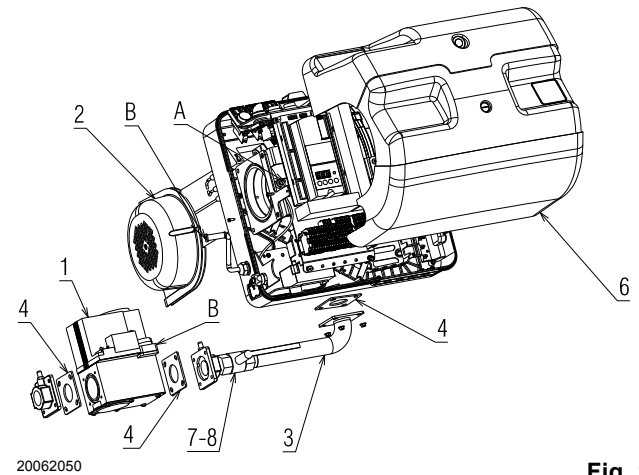
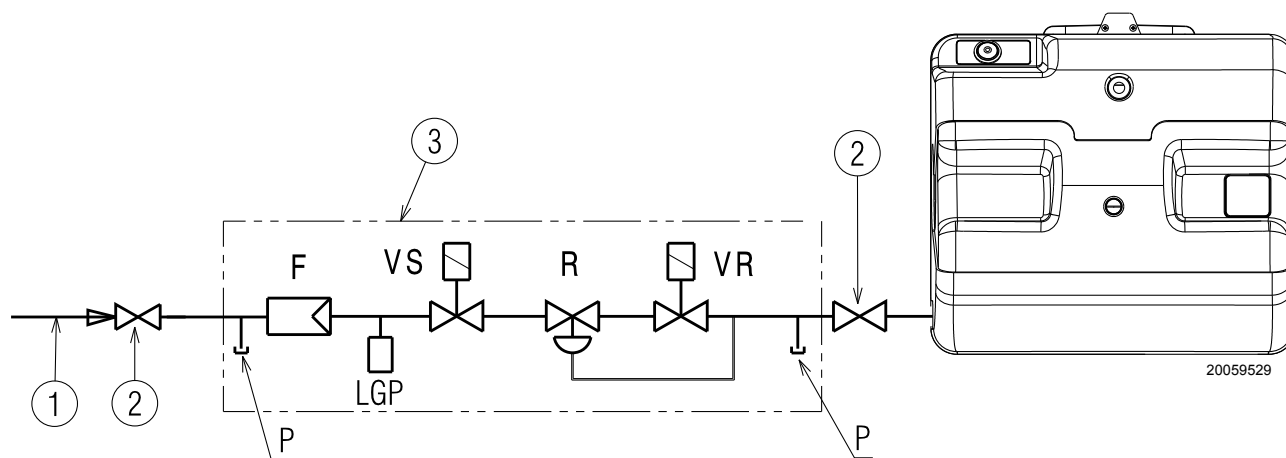

Fig. 17
Fig. 19
- Fix the train assembly 1)(Fig. 17). Interpose the gas pipe 3) nuts and the groover washer 4), the manual valve 7) and nipple 8).
- Insert the cover 6) (Fig. 17).
This has been type-approved in accordance with regulation NFPA 54/ANSI Z223.1 National Fuel Gas Code, NFPA 58 Liquefied Petroleum Gas Code, and International Fuel Gas Code, CAN/CGA B149.1 & B149.2 Installation Codes, and is supplied as standard. (Fig. 17)(Fig. 19).
Key (Fig. 19)